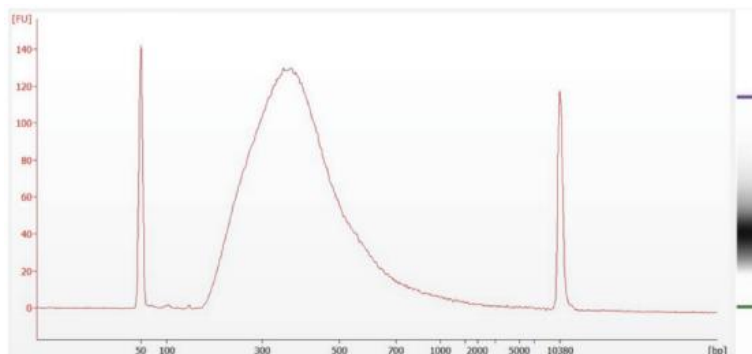

Figure 1. Electropherogram of library samples that were prepared as described. Note the single prominent peak at ~400 bp.
19. Quantify and validate the size range of each library using the Thermo Fisher Scientific Qubit dsDNA Broad Range Quantitation Assay or equivalent and LabChip® GXII Touch™ Nucleic Acid Analyzer or equivalent. Final concentration values should be $\geq$ 80 ng/ μ L, and average fragment length should be 375–425 bp using a range setting of 150–1000 bp (Figure 1).